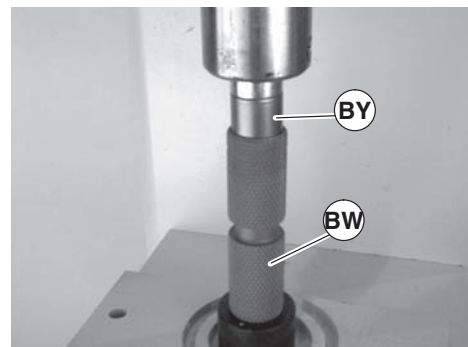

**Figure 64**
3. Place and hold bearing (Figure 64, item BY) onto tool (CC).